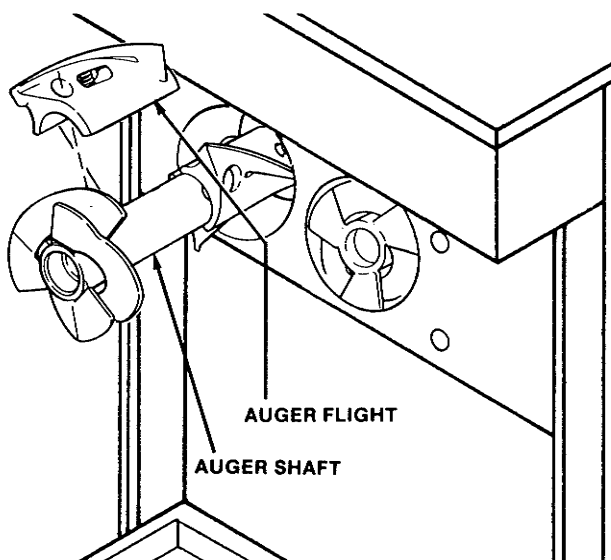

Figure 24. Auger Shafts
E. Remove the auger assemblies from the freezer. Pull the augers out of the freezer barrel slowly. As the augers are being pulled out, carefully remove each of the plastic flights with springs (Fig. 24).